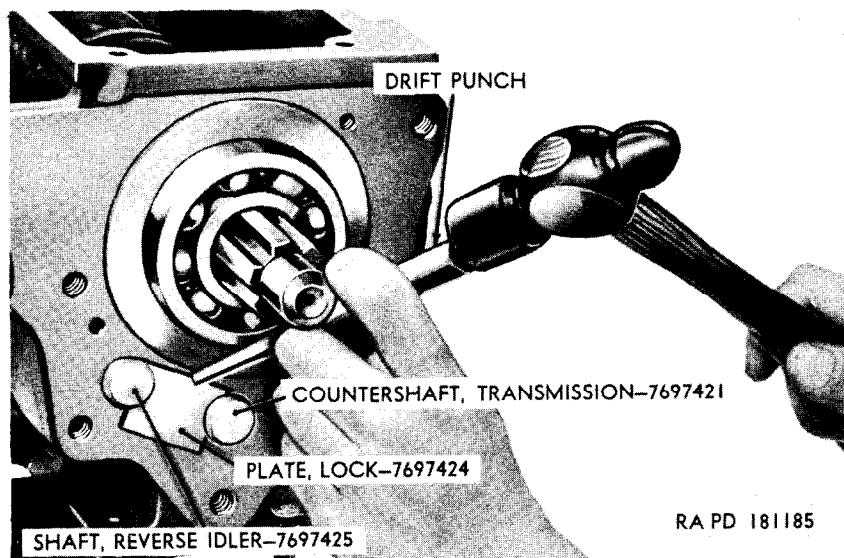

Figure 49. Removing transmission reverse idler shaft and countershaft lock plate.
b. Remove Transmission Countershaft. Using a suitable drift, remove the lock plate (fig. 49) which secures the reverse idler shaft and countershaft. With a brass drift, tap transmission countershaft approximately one-fourth of an inch out of case (toward lock plate side).